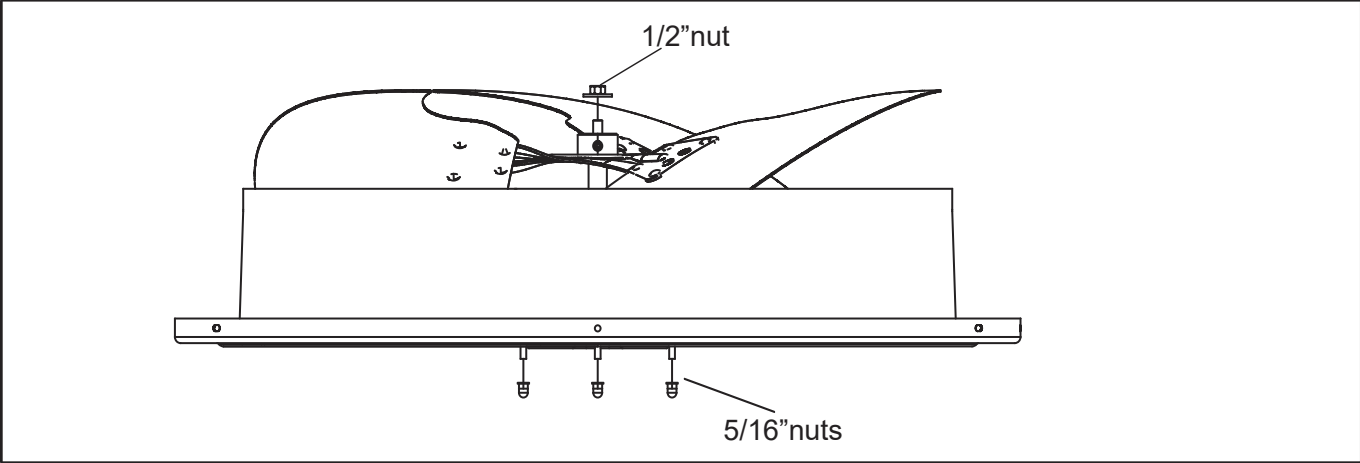

Figure 43
STEP 3 - Be sure to place fan cover unit on the ground (Figure 43).